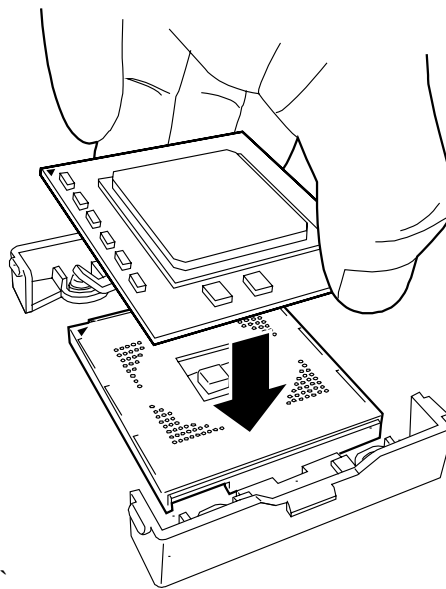

Figure 4-14. Installing the Processor
7. Orient the processor so that the triangle on the corner of the processor aligns with the triangle on the corner of the socket. See Figure 4-14.